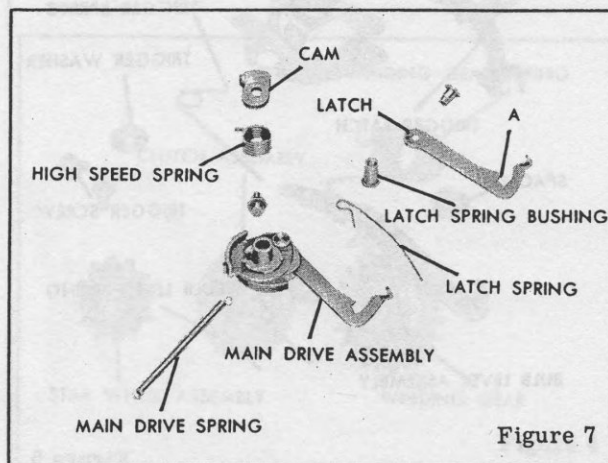
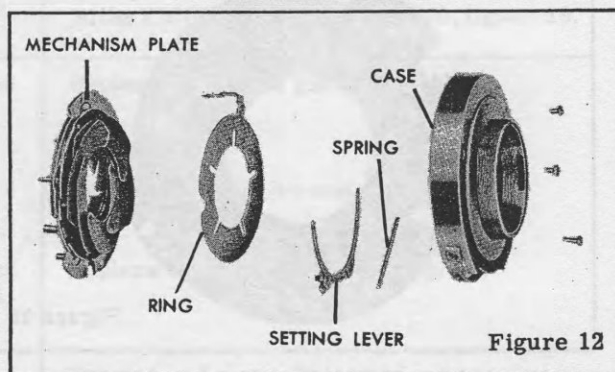
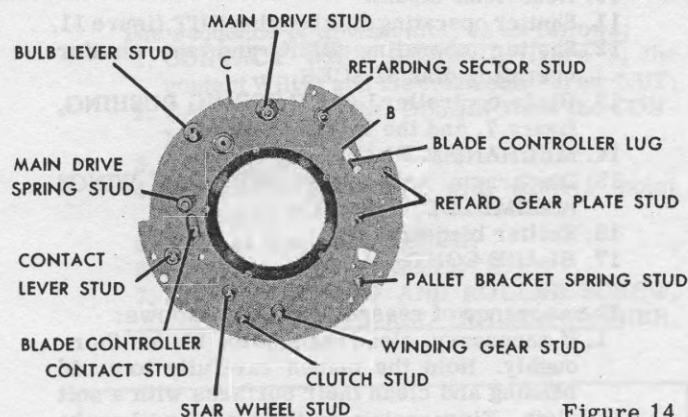
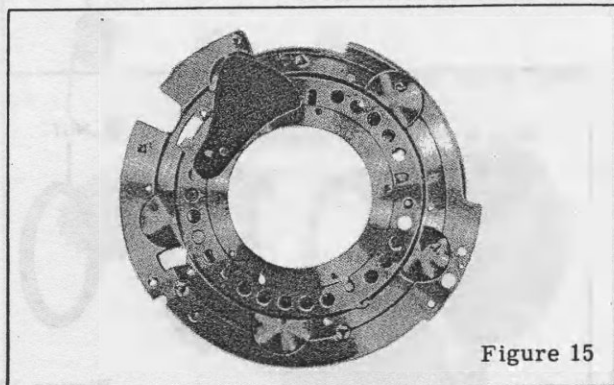

Figure 7
Figure 12
Figure 14
Figure 15
6. High speed spring CAM, figure 7, and the **HIGH SPEED SPRING**.
5. Unhook the MAIN DRIVE SPRING, figure 7, from the MAIN DRIVE SPRING STUD, figure 14.
3. Place the long end of the sector spring against the inner side of the blade controller LATCH SPRING BUSHING, figure 7.
5. Unhook the LATCH SPRING, figure 7, from the main drive LATCH.
1. Apply a thin film of grease (Texaco Unitemp-RCX169 Grease) in the slot on the main drive assembly where it engages the stop stud on the SETTING LEVER, figure 12; on the MAIN DRIVE STUD, figure 14; on the LATCH, figure 7, at the point of contact with the LATCH SPRING, and on the latch where it contacts the RETARDING SECTOR STUD, figure 14. This area of the latch should be burnished before applying the lubricant.
8. Release the shutter and at the same time retard its opening action by placing one finger against the shutter **SETTING LEVER**, figure 12. Observe whether the **BLADE CONTROLLER CONTACT STUD**, figure 14, makes slight contact with the contact spring stud before the blades are fully open. If the spring does not touch the stud, bend the end of the spring toward the stud.
8. Cock and release the shutter and at the same time retard its opening action by placing one finger against the shutter SETTING LEVER, figure 12. Observe whether the BLADE CONTROLLER CONTACT STUD, figure 14, makes slight contact with the contact spring when the blades are fully open. If the spring does not touch the stud, bend the end of the spring toward the stud.
13. Blade controller LATCH SPRING BUSHING, figure 7, and the LATCH SPRING.
14. MECHANISM PLATE, figure 12.
3. **BLADE WITH DOUBLE BLADE BUSHING** and stud, with the hole in the blade over the stud on the mechanism plate near the **BLADE CONTROLLER LUG**, figure 14. Refer to figure 15 for positioning of the shutter blade,
8. The shutter **CASE**, figure 12, diaphragm **RING**, and the **SETTING LEVER** with stop stud should be thoroughly cleaned. Apply a thin film of grease (Texaco Unitemp-RCX149 Grease) in the recess in the case occupied by the setting lever. Then wipe this area lightly with a clean cloth.